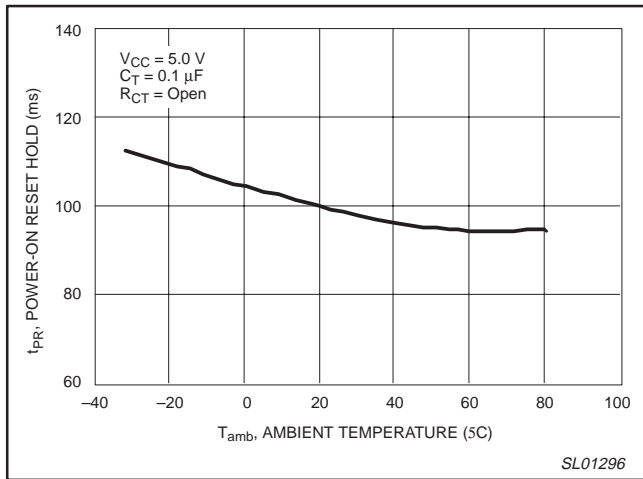
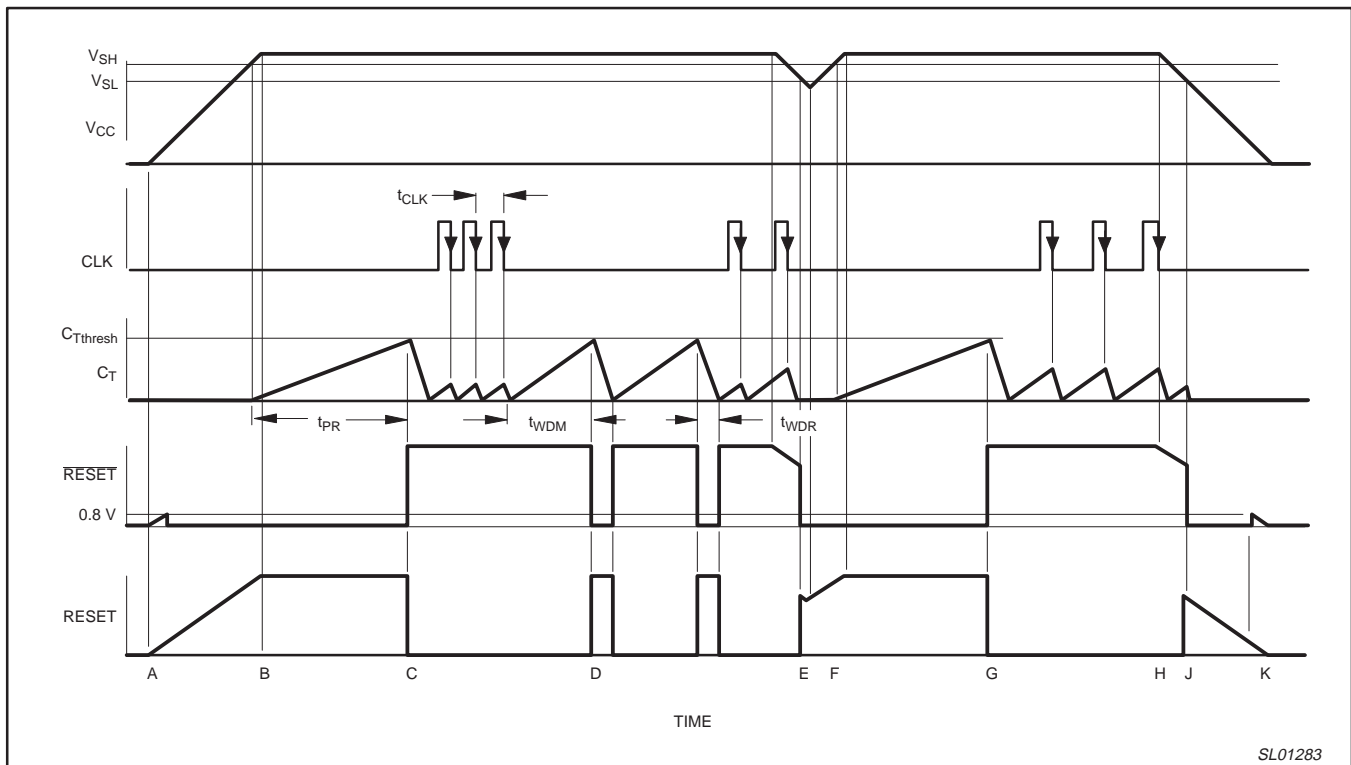
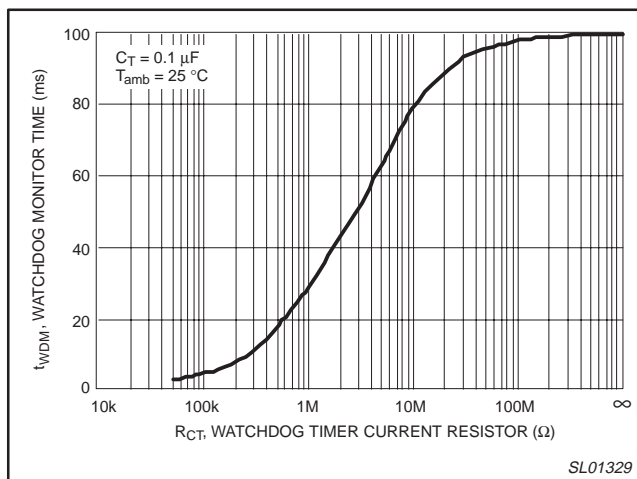

Figure 11. Power-on reset hold time vs. temperature.
Figure 20. Timing diagram.
Figure 25. Watchdog monitoring vs. pull-up resistor R_{CT} .
- 'Watchdog monitoring time' is the duration from the last pulse (negative-going edge) of the timer clear clock pulse until reset output pulse occurs (see Figure 20). A reset signal is output if a clock pulse is not input during this time. Watchdog monitoring time can be modified by changing the value of the R_{CT} pull-up resistor. Monitoring time adjustments are shown in Figure 25.
- 'Watchdog reset time' is the reset pulse width (see Figure 20).
The timing diagram shown in Figure 20 depicts the operation of the device. Letters indicate events on the TIME axis.
The values of R_{CT} and C_T affect the watchdog monitoring time (t_{WDM}), the watchdog reset time (t_{WDR}), and power-on reset delay time (t_{PR}). See Formula 1 in the AC Electrical Characteristics and the Timing diagram shown in Figure 20 for parameter definitions. Also see Figures 11 through 18 for typical time relationship performance.
The effect of R_{CT} on the watchdog timer monitoring time at room temperature for $C_T = 0.1 \text{ mF}$ is shown in Figure 25.